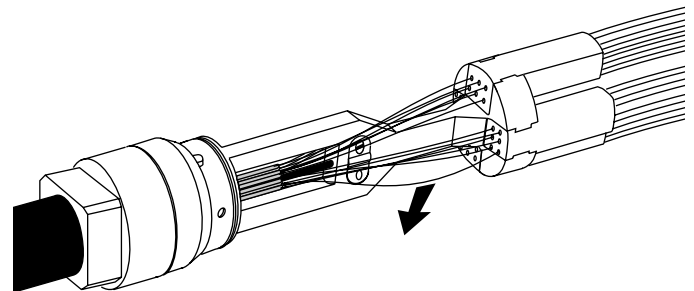

Figure 20
- Pull the appropriate fiber back about 5 cm (2 in.) (Figure 20).